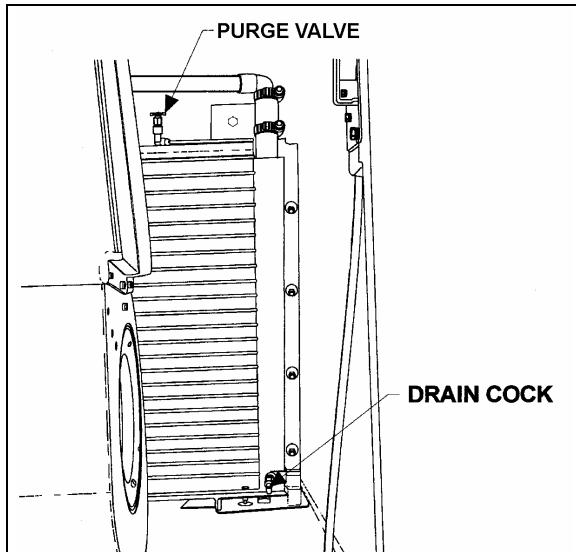

FIGURE 53: PASSENGER'S UNIT HEATER CORE (H3 COACHES) 22229
4. Open drain cock in bottom of heater core, then open purge valve located on top of heater core (Figure 53) in order to allow air to enter while draining.
and Figure 53, and open them momentarily until no air escapes from the lines.